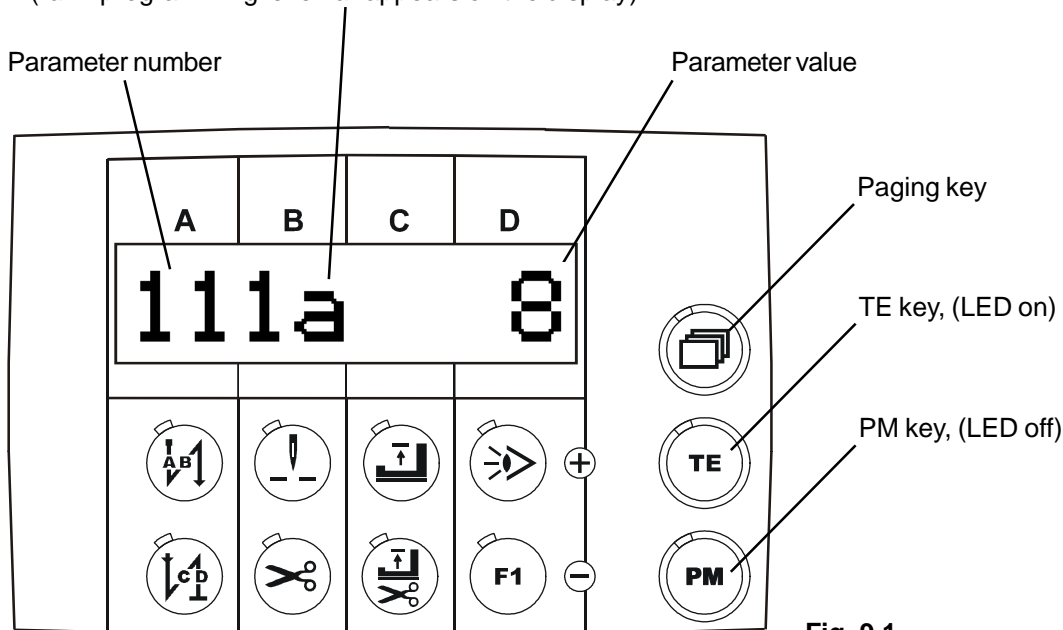

Fig. 9.1
- Press paging key until the display (Fig. 9.1) appears
- Press the **paging key** until display **Fig. 9.1** is displayed; **sewing is not possible**